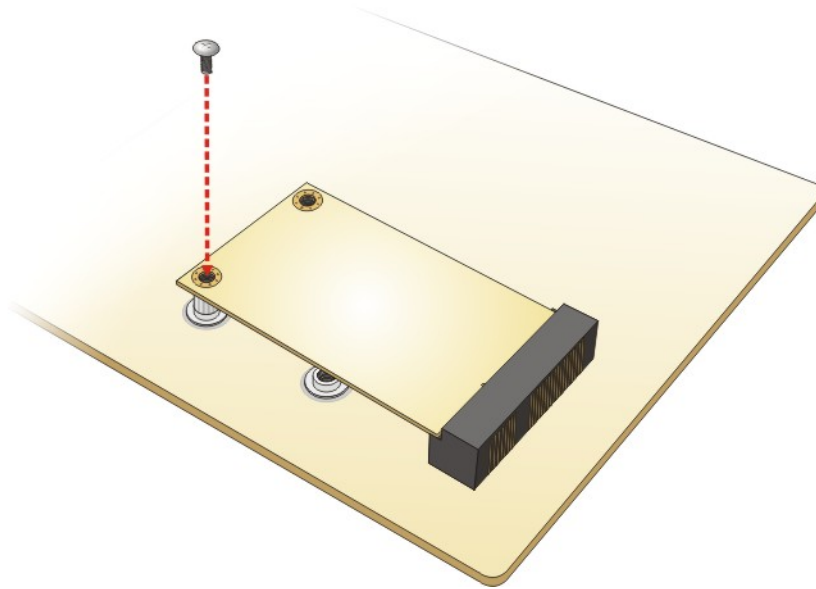

Figure 4-4: Securing the Full-size PCIe Mini Card
Step 4: **Secure the full-size PCIe Mini card.** Secure the full-size PCIe Mini card with the retention screw previously removed (**Figure 4-4**).